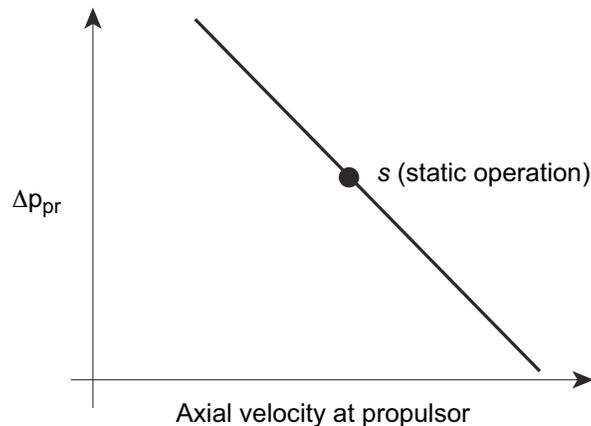

Figure 3: Propulsor pressure rise versus velocity at propulsor.
Part 3) In Part 3 we add two features of the real situation to the configuration of Part 2. First, the propulsor pressure rise is a function of the velocity through the propulsor as indicated in Figure 3. Second, the propulsor/nacelle/throttle is operating at a forward speed of u_0 .
- 3b) If the propulsor operating point at static conditions in Part 2 is denoted by the point s on Figure 3, which way does the propulsor operating point move as the conditions change from static to forward speed? Why?